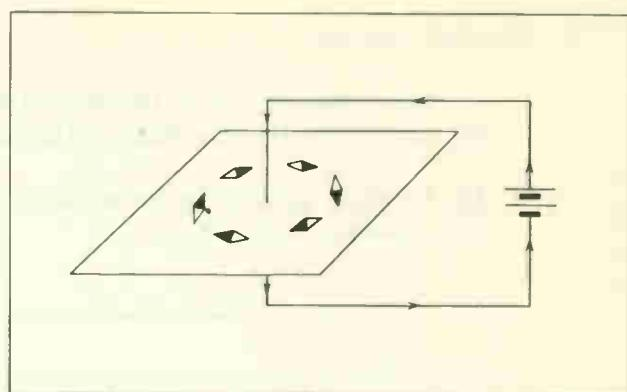

Fig. 2
- b. The direction of the lines rotation depends on the direction of current. Fig. 2.